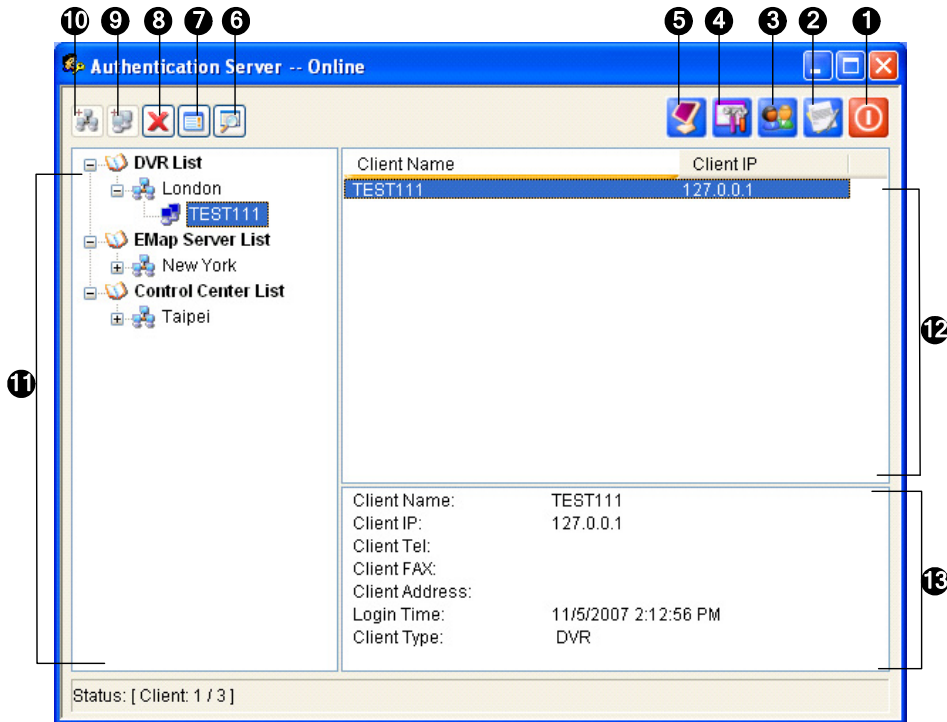

Figure 11-24
1. To create a group, click the **Add An Area** button (No.10, Figure 11-24).
2. To create a client under the group, click the **Add A Client** button (No.9, Figure 11-24). This displays the Client Information dialog box.
1. Click the **Password Setup** button (No.3, Figure 11-24) to display the Password Setup window. The window is the same as the Password Setup window in Main System, except the following section.
1. Click the **Server Setup** button (No. 4, Figure 11-24). This dialog box appears.
4. Click the **Start/Stop Service** button (No. 5, Figure 11-24) to start the services.
You need to create and arrange E-Map Servers and Control Servers under their separate lists on the Authentication Server window (Figure 11-24). Type the name and information of the E-Map Server or Control Center in the Client Information dialog box. The name does not need to match the location name of the E-Map Server or Control Center.